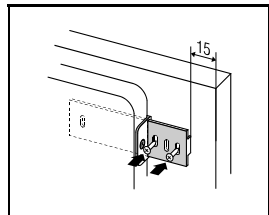

Fig. 5
- Fix the appliance into the kitchen unit. On the upper side, fix the three screws A 4 x 12 through the rail and on the lower side with two screws A 4 x 16, through the lower hinges. Drill holes, \varnothing 3 x 5 (Fig. 5).